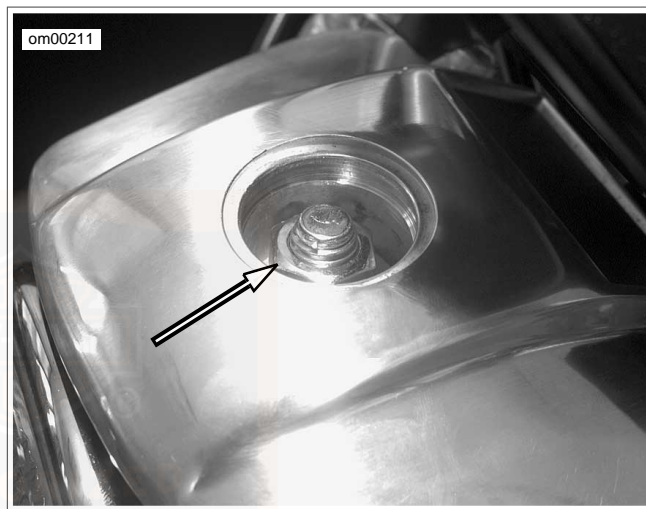

Figure 54. Headlamp Clamp Nut: Sportster Models (XL Model Shown)
2. See Figure 54. Loosen headlamp clamp nut.